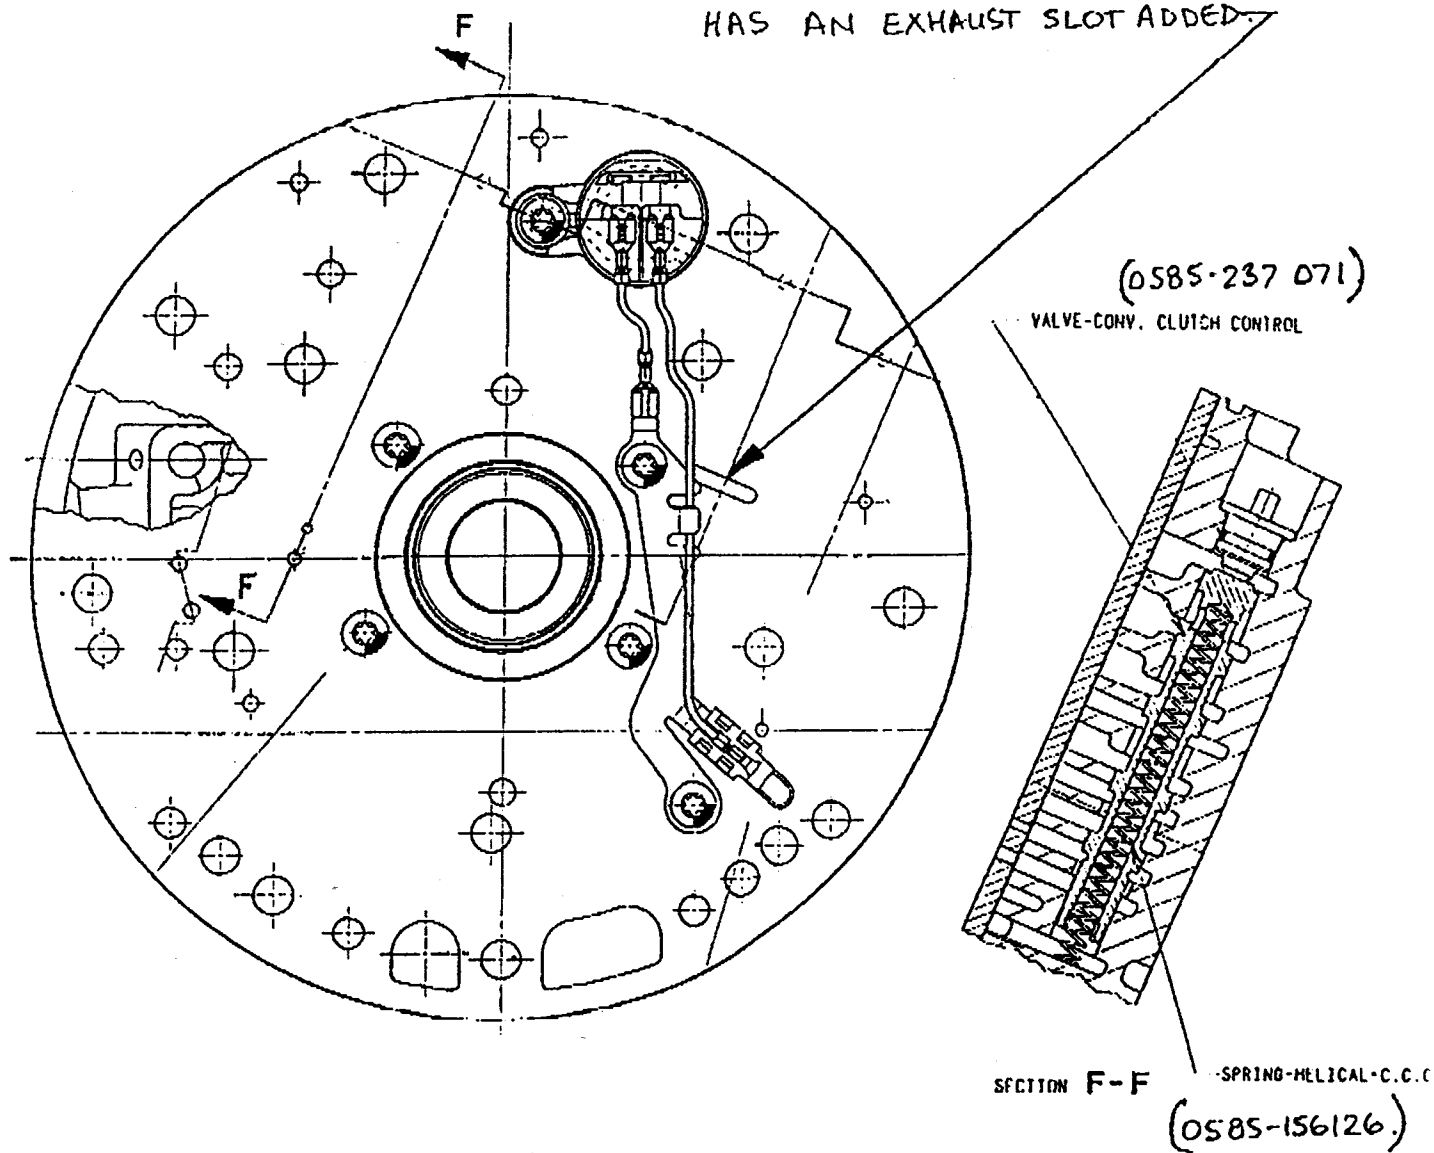

FIGURE 1: TORQUE CONVERTER UN-LOCK
- ii) Replace pump cover plate with new plate 0585-014029 and use a new gasket (0585-045018). Refer Figure 1.